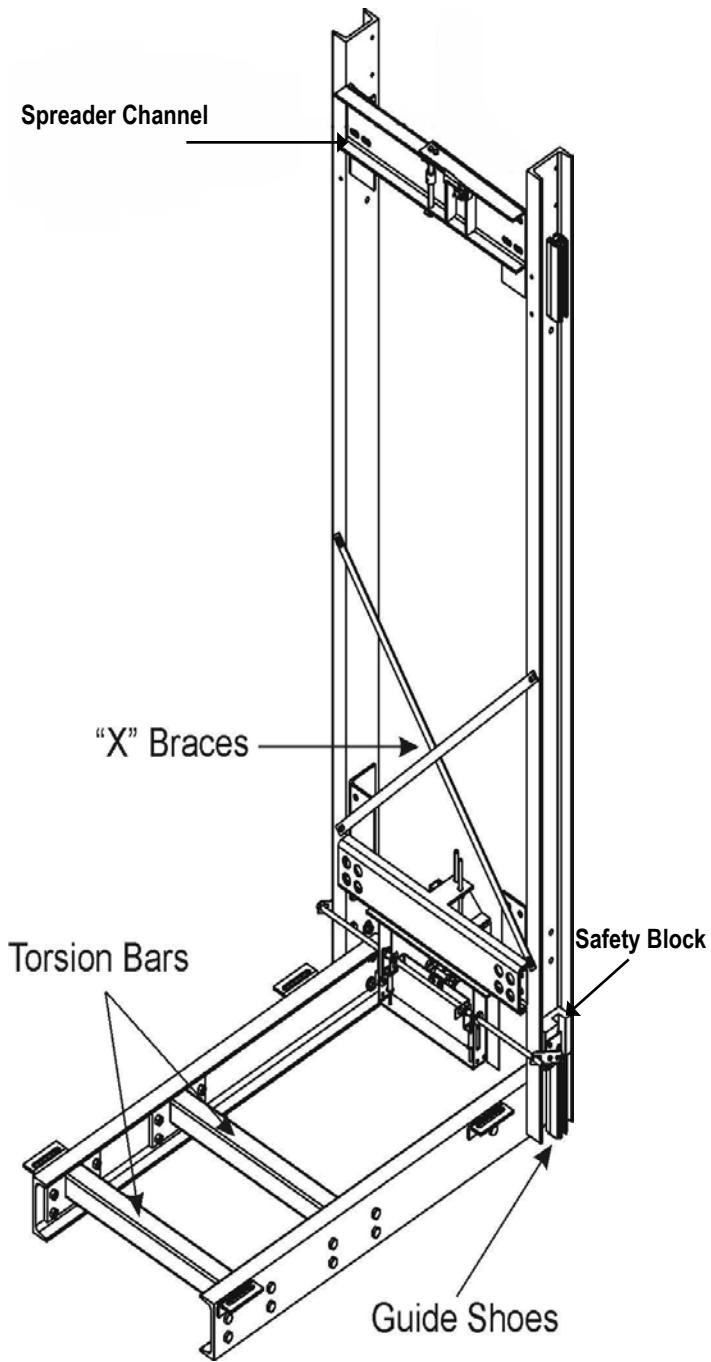

Figure 34 Sling Assembly
- 2) Loosely bolt the four (4) guide shoes on the "inside" of the lift channel uprights (stiles) and position the lift frame (sling) between the guide rails (Figure 34).
- 4) Mount the two (2) torsion bars to the sling (Figure 34).
- 6) Install the "X" braces on the uprights using $\frac{3}{8}$ " x 1" bolts, lock washers and nuts (Figure 34).